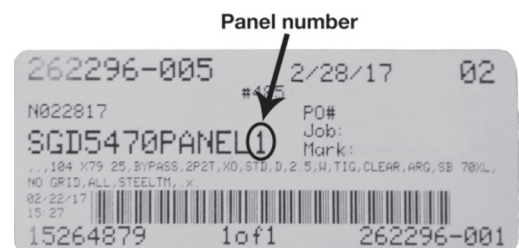

Figure 16
14. Locate the shipping label on all panels and identify the panel number (Figure 16).